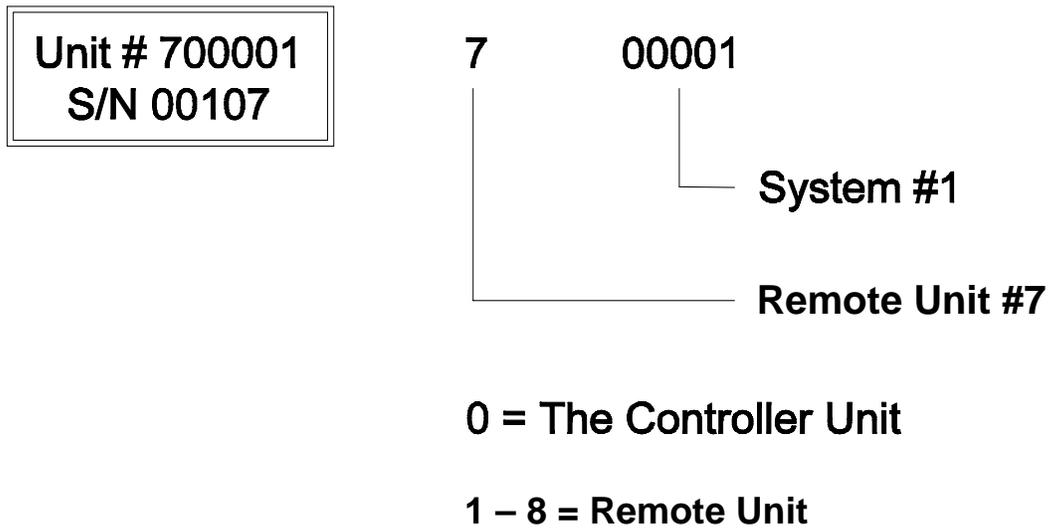

Figure 3-1 Identification Label.
3.6.1. Each Controller Unit and Remote Unit is marked with an identification label. Figure 3-1 Shows how the identification label should interpreted. The Controller Unit will only communicate with Remote Units from the same system.